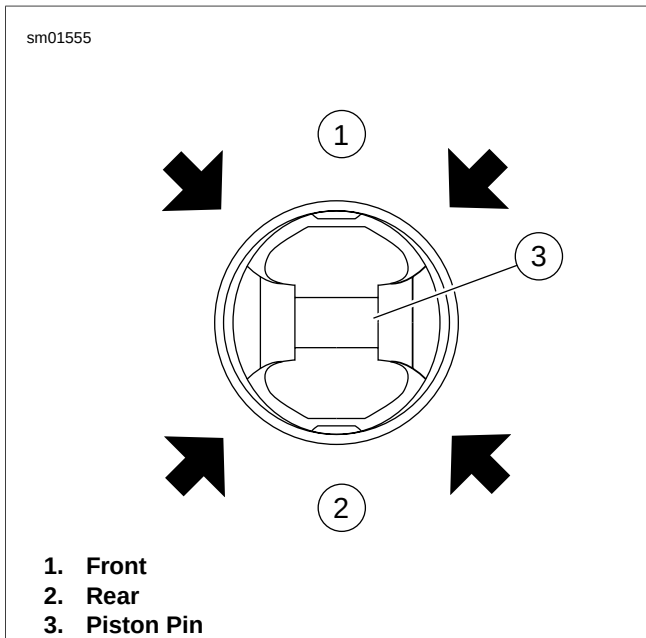

Figure 3-56. Position Ring End Gaps at Arrows
5. See Figure 3-56. Make sure the piston ring end gaps are properly positioned as shown.